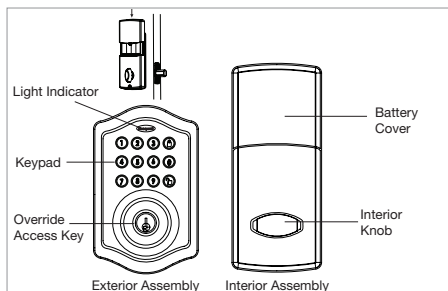

Figure 5a-5b
- a. Insert 4 AA high quality Alkaline batteries into the Battery Compartment in the direction noted +/- on the Compartment. The Lock will beep 2 times, the key pad will illuminate blue, and the Honeywell button will flash green twice to signify that it has received power (Figure 5a).